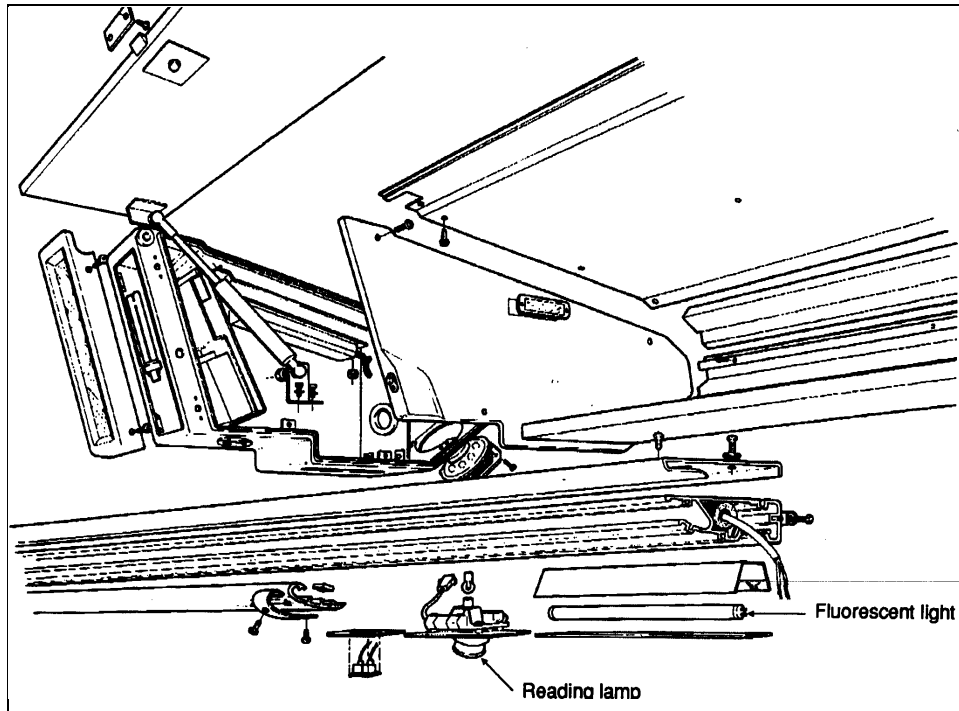

FIGURE 48: PARCEL RACK
1. Remove the front bezel by unscrewing the four "Phillips" side screws (two each side), then the lens (Fig. 48).
1. Apply pressure on the screen lens of fluorescent light to unsnap it (Fig. 48).